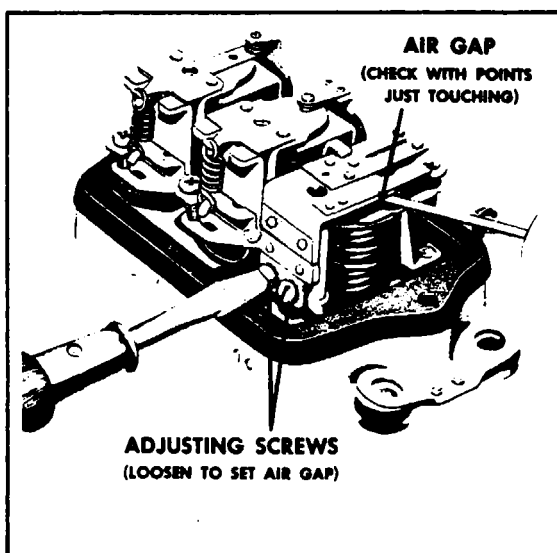

Figure 11-10. Cutout Relay Air Gap Check and Adjustments
a. Air Gap: Place fingers on armature directly above core and move armature down until points just close and then measure air gap between armature and center of core. (Refer to Figure 11-10.) On multiple contact point relays, make sure that all points close simultaneously. If they do not, bend spring finger so they do. To adjust air gap, loosen two screws at the back of relay and raise or lower the armature as required. Tighten screws after adjustment.